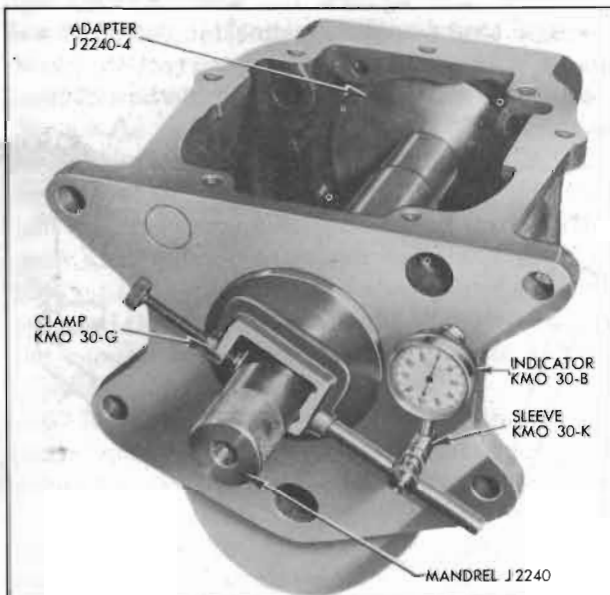

Figure 4-35—Checking Run-out of Transmission Case
a. Install the adapter and mandrel in case, then mount dial indicator on mandrel so that indicator stem bears against front face of transmission case 3" from center of mandrel. See figure 4-35.